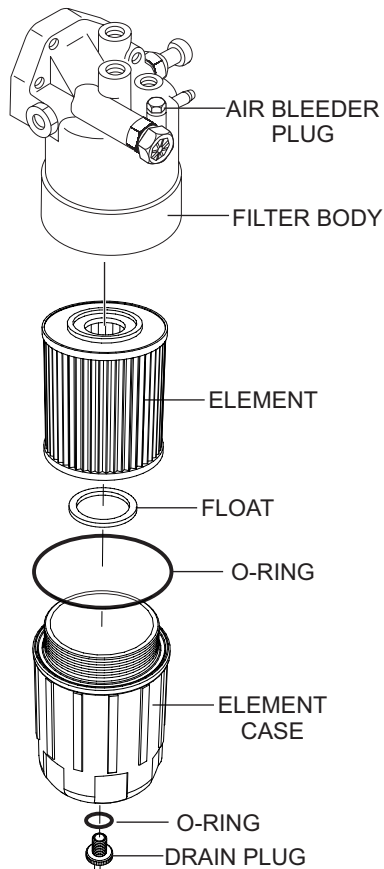

Figure 51. Fuel Filter Replacement
1. Using a **filter wrench**, remove the **element case** from the **fuel filter body** (Figure 51).
2. Wipe the inside of the **filter body** (Figure 51) with a clean cloth to remove any foreign matter or debris that may have accumulated.